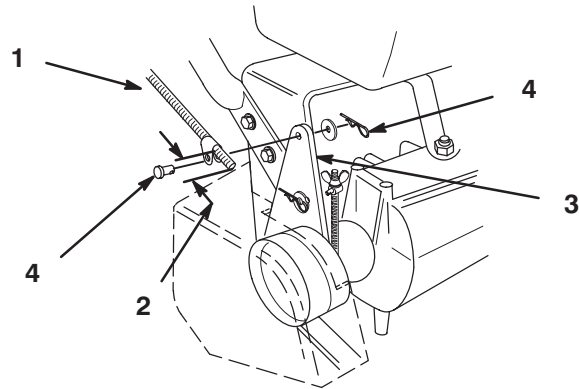

Figure 7
1. Thread a rod fitting onto each control rod approximately 2 in. (51 mm) (Fig. 7) or until upper control bar (Fig. 8) is approximately perpendicular to the ground.
2. Mount rod fitting ends to mounting holes in idler brackets (from outside) with clevis pins, washers and hairpin cotters (Fig. 7).